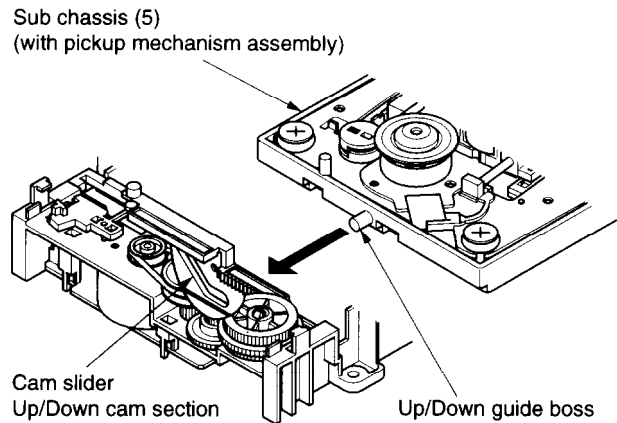

Fig. 1-3-10
1. Remove the pickup mechanism assembly (Refer to item 1-3-3).
2. Remove the polyslider washer (1), and remove the gear B assembly (2). (Refer to Fig. 1-3-10.)
3. Remove one screw (3), and remove the gear A (4).